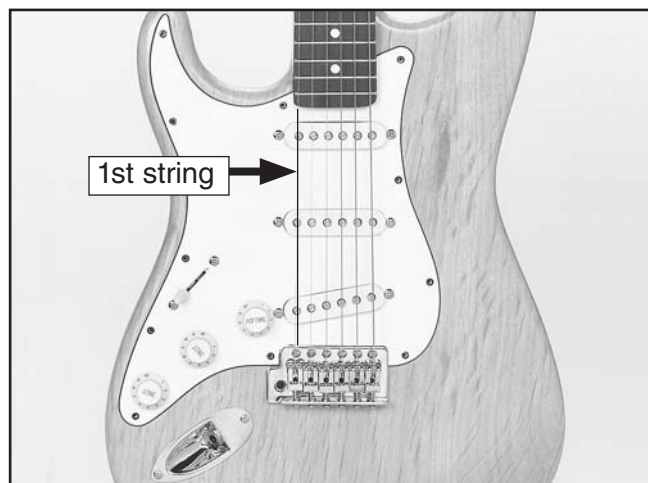

Figure 31. Pick guard mounting location.
1. Position the pick guard so the 1st string is centered over the corresponding round metal pick-up peg, as shown in **Figure 31**.